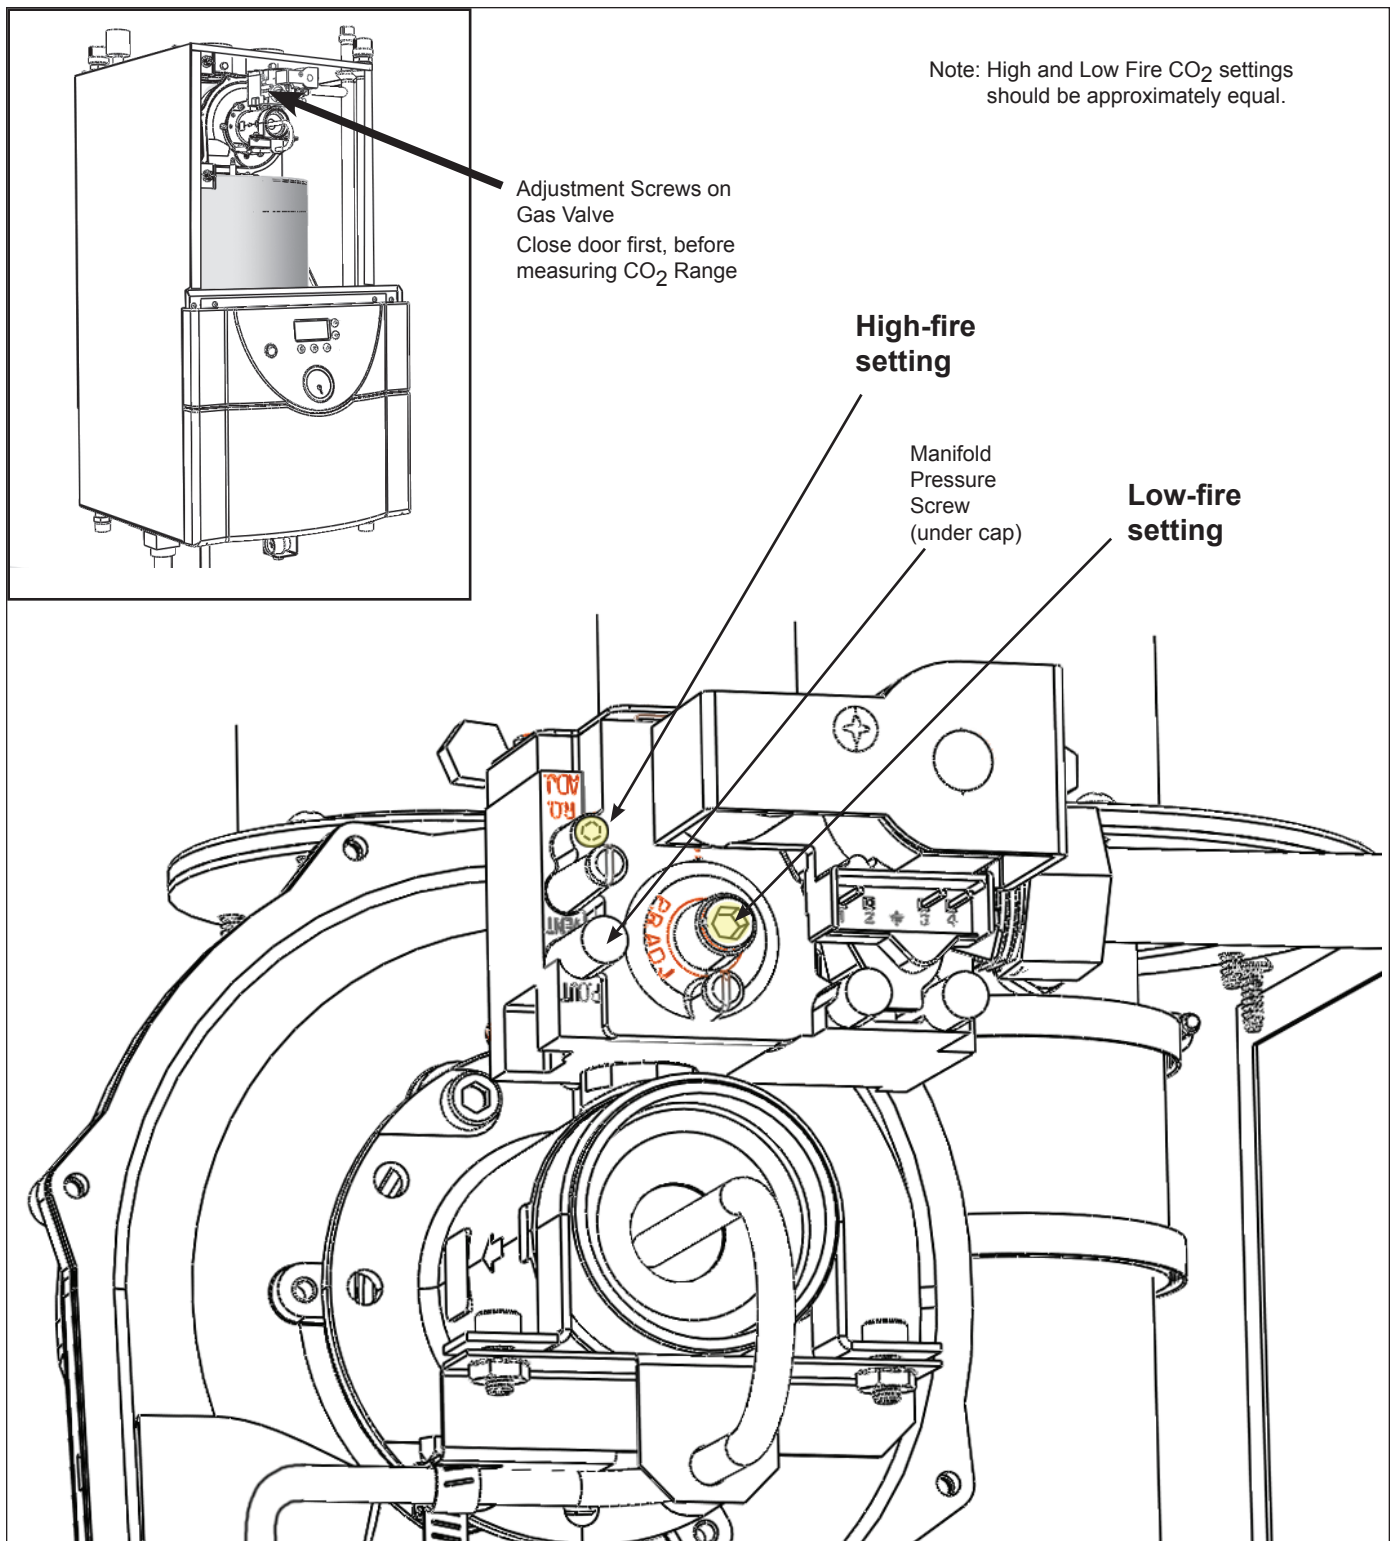

Figure 26. Adjustment Screws and Settings for CO₂
1. Measure the CO₂ in the flue products at high fire. The Brute LX can be forced to high fire to allow for easier setup. Refer to **Section 8** for instructions on how to access the forced rate menu. The CO₂ readings should be between the range shown in **Table 17**. If the CO₂ is not within the range shown, adjustments may be made. To adjust the high fire CO₂, locate the high fire adjuster screw (see **Figure 26**). **Using a 2.5 mm Hex wrench, slowly make adjustments in 1/16 of a revolution increments until the CO₂ is within the range identified.** (see **Figure 26**)
2. Measure the CO₂ in the flue products at low fire. Brute LX can be forced to low fire to allow for easier setup. Refer to **Section 8** for instructions on how to access the forced rate menu. CO₂ readings should be between the range shown in **Table 17**. If the CO₂ is not within the range shown, adjustments may be made. To adjust the low fire CO₂, locate the low fire adjuster screw. **Using a 4 mm Hex wrench, slowly make adjustments in 1/16 of a revolution increments until the CO₂ is within the range identified.** (see **Figure 26**)
6. With a combustion analyzer, check CO₂ levels at both maximum and minimum input. Refer to sections **Figure 26** and **Table 17** of this manual for the proper adjusting procedures.